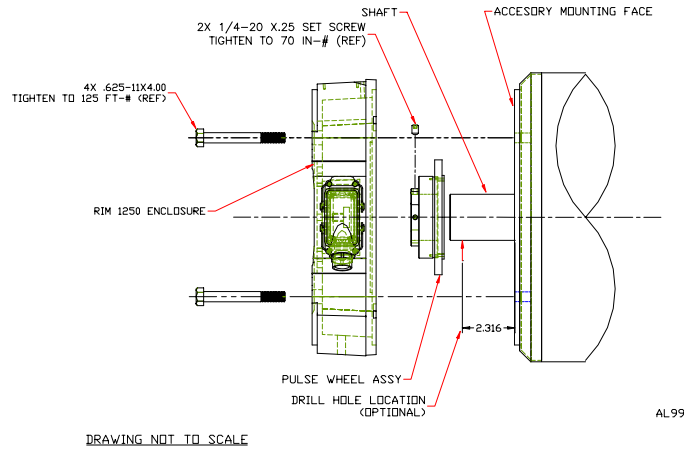

Figure 5: Pulse Wheel Assembly
To prepare the pulse wheel assembly for installation, perform the following steps. See Figure 5.
7. Insert four 0.625"-11 hex cap screws onto the motor enclosure. If the enclosure has not already seated against the motor facing, do so by tightening the first bolt and then the bolt on the opposite side. Continue alternating and tightening until enclosure is seated. Torque all bolts to a nominal 125ft-lbs (see Figure 5).